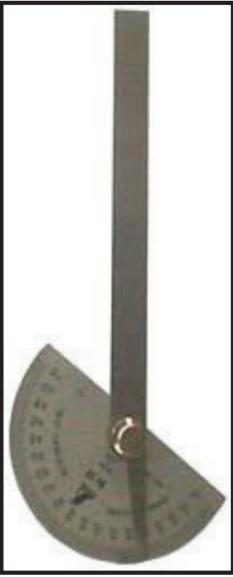

Figure 2.5 Engineer's Protractor
2.2.1.5 Engineer's Protractor :It is an angle measuring tool as shown in figure 2.5 and used for the checking of angles of drill head, cutting tool, and marking of angles.